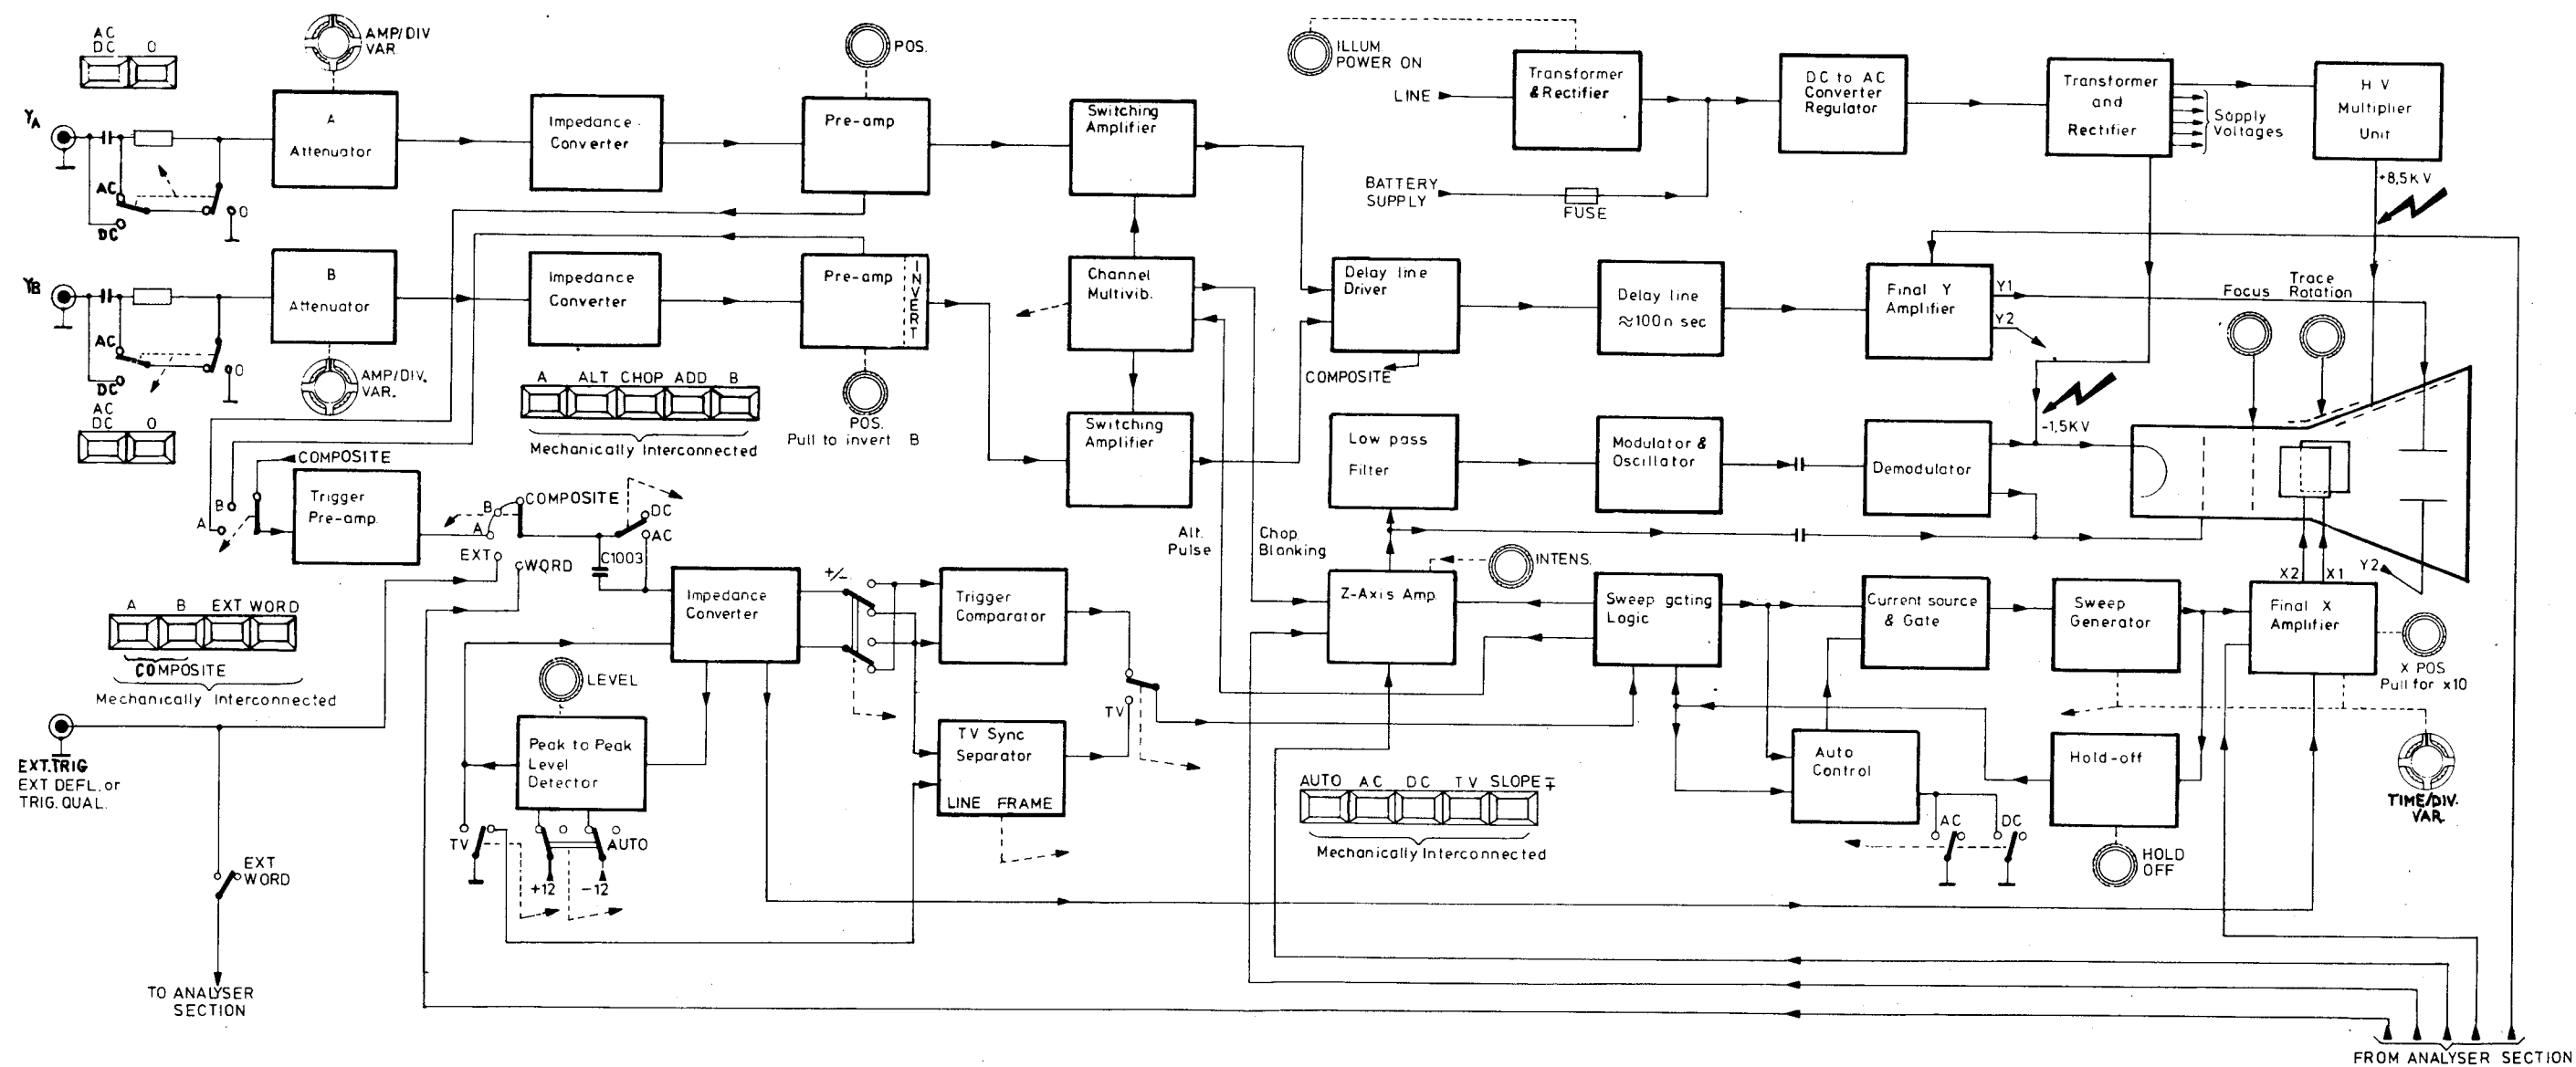

Fig. 1.6. Block diagram of the oscilloscope part
1.4.2. Oscilloscope part (see Figure 1.6.)